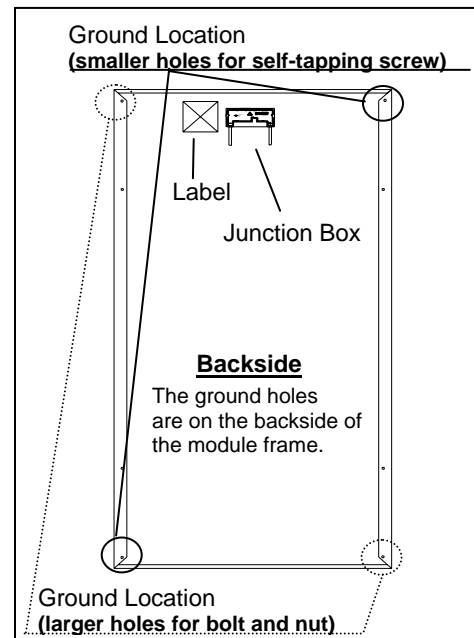

Figure 3.1
- Each ledge on the module frame has two smaller holes for self-tapping screws (0.165" diameter (4.2 mm)) and two larger holes for bolts (0.205" diameter (5.2 mm)). These ground holes are marked with a "G" adjacent to their location on the frame rail (see Figure 3.1).
Method 1- Use a self tapping screw (see Figures 3.1 and 3.2)
Method 2- Use a bolt and nut (see Figures 3.1 and 3.3)